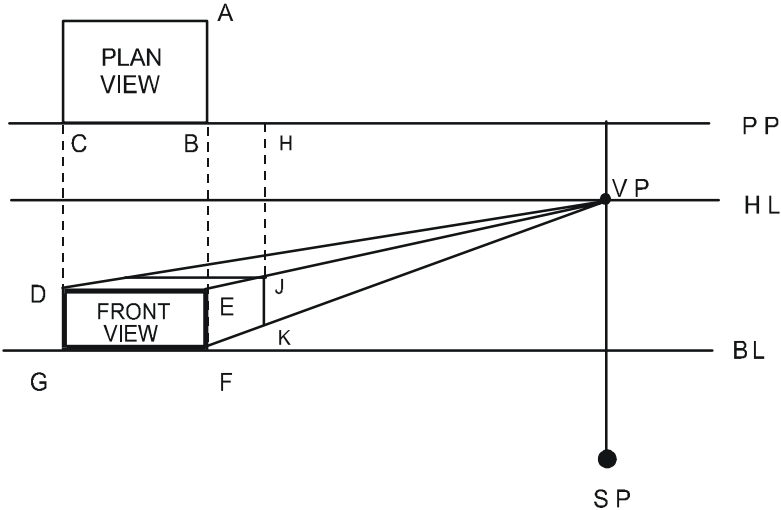

Figure C-6. Projecting a line from plan view to station point.
NOTE: See Figure C-6 for steps (7) through (11).